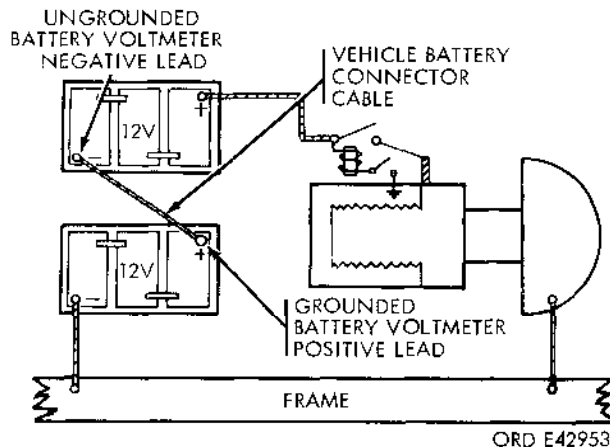

Figure 2-30. Battery connector cable test.
(3) Connect the negative voltmeter lead to the negative post of the grounded battery.
(4) Close the starter motor switch with the ignition switch in the OFF position and read the voltmeter.
(5) If the voltage reading is below 20 volts, change the selector switch to the 20-volt position and repeat (4) above.
(6) If the voltage reading is below 10 volts, change the selector switch to the 10-volt position and repeat (4) above.
(7) If the voltage reading is below 1 volt, change the selector switch to the 1-volt position and repeat (4) above.
(8) The maximum allowable voltage loss is 0.1 volt.
(9) Place the voltmeter selector switch in the OFF position, and remove the voltmeter tester leads from the frame and battery post.
*c. Battery Connector Cable Test (Fig. 2-30).*
(1) Move the selector switch to the 50-volt position on the tester.
(2) Connect one end of the positive (+) voltmeter lead to the positive (+) terminal of the tester, and the other end to the positive (+) post of the grounded battery.
(3) Connect one end of the negative (—) voltmeter lead to the negative terminal of the tester, and the other end to the ungrounded battery negative post.
(4) Close the starter switch with the ignition switch in the OFF position. Read the voltmeter.
(5) If voltage is less than 20 volts, place the selector switch in the 20-volt position and repeat (4) above.
(6) If voltage reading is less than 10 volts, place selector switch in the 10-volt position. Repeat (4) above.
(7) If reading is less than 1 volt, place selector switch in the 1-volt position and repeat (4) above.
(8) The maximum allowable voltage loss is 0.2 volt.
(9) Turn the voltage selector switch to the OFF position after the check is completed, and remove all test leads from the battery cable.